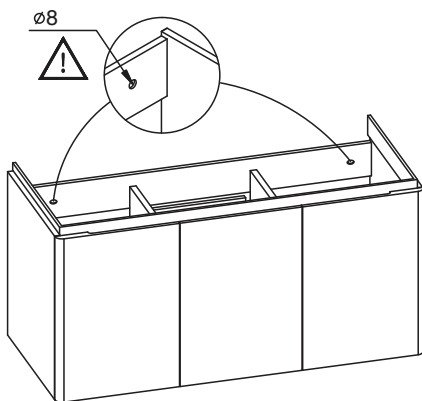

Fig.6
6. Mark the wall through two holes at the corresponding positions as illustrated in Fig 6.